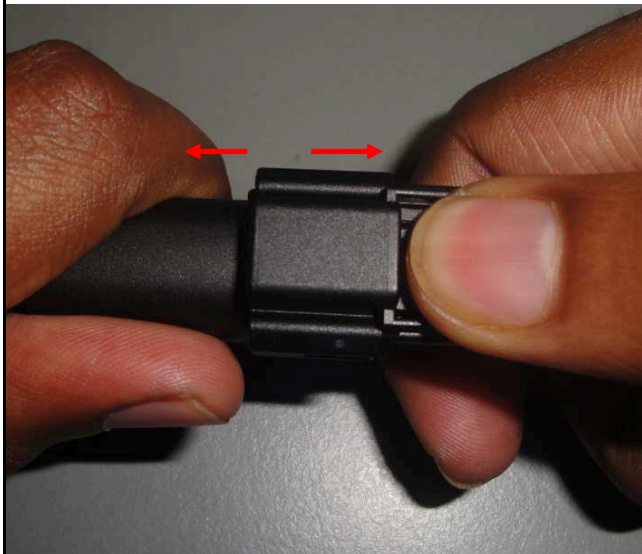

FIG. 5
- 2) Press the latch lever to disengage the latch and pull the receptacle assembly as shown in Fig.5&6
- 2) Push extractor tool straight down gently and apply pressure to release locking finger. This motion will release the locking finger. Pull the terminal gently by supporting the finger at the bottom face of receptacle as shown in fig 5.
- 2) Push extractor tool straight down gently and apply pressure to release locking finger. This motion will release the locking finger. Pull the terminal gently by supporting the finger at the bottom face of connector as shown in fig 5.